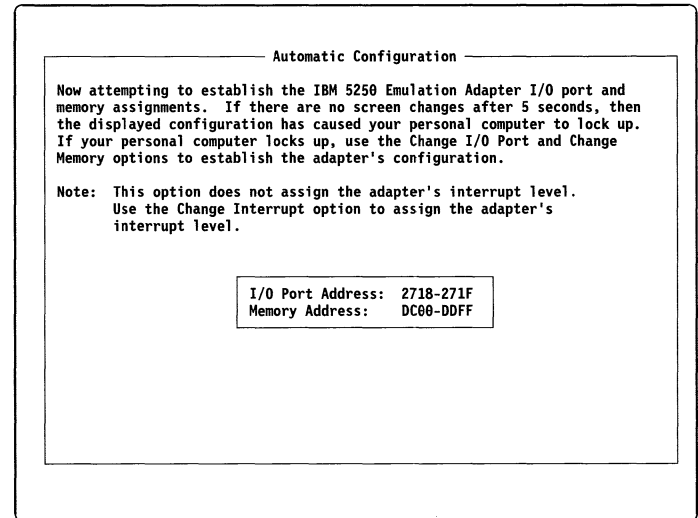

Figure 22. Automatic Configuration Screen
2. From the Change Adapter Configuration screen, select the Automatic Configuration option. The Automatic Configuration screen, similar to the one shown in Figure 22, appears. This screen shows you information about the Automatic Configuration option while the program selects an I/O Port and Memory Address ranges.